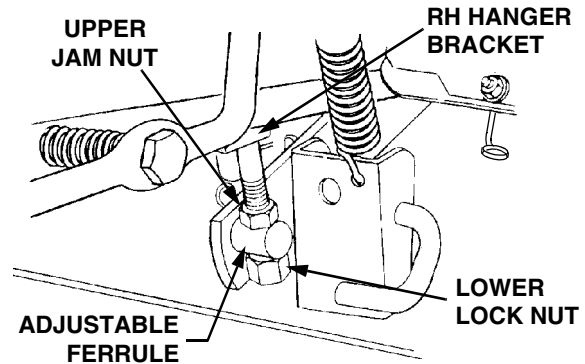

Figure 33
5. Lower the deck onto the hard, level surface. Side-to-side leveling is obtained utilizing the adjustment ferrule and right hand hanger bracket (See Figure 33).
6. Loosen the upper jam nut on the hanger bracket and turn away from the adjustment ferrule. Turn the lower lock nut upward (tighten) on the threads of the hanger bracket to raise the right side of the mower deck. Turn the lock nut down (loosen) on the threads to lower the right side of the mower deck (Refer to Figure 33).